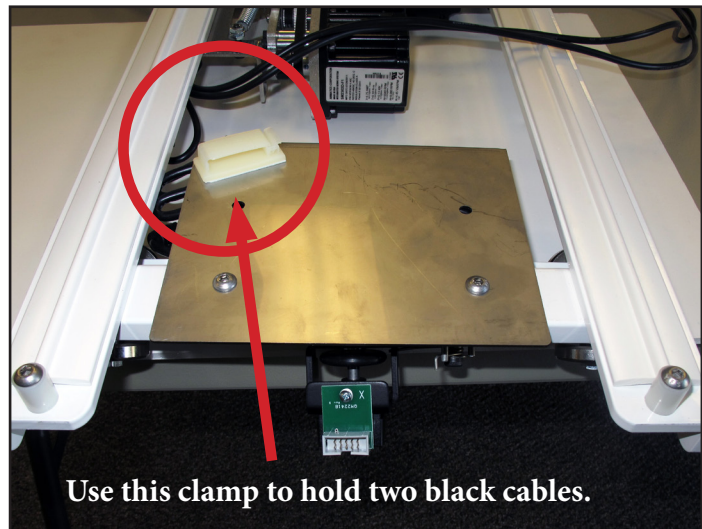

Figure 26
10. Route the black cable harness up over the computer bracket and use the flat cable clamp to hold the two black cables (not the cable with the 3-pin connector) to the top surface of the old computer/power supply bracket (*Figure 26*).